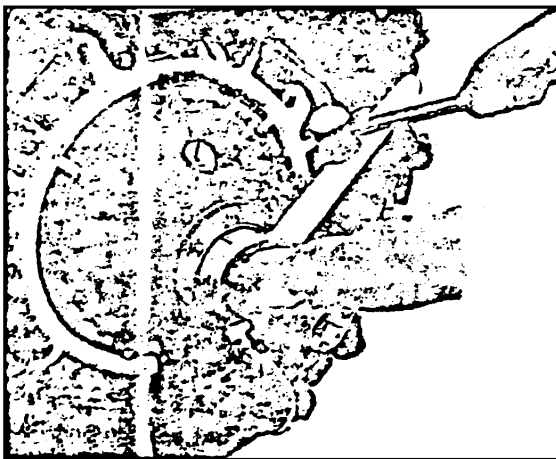

FIGURE 64—Tightening Propeller Shaft Thrust Nut
**THRUST NUT** Insert fiber drift through the piston pin bushing of the master rod and tighten the thrust nut with the wrench designed for this purpose and a lead hammer. Refer to figure 64.) Care must be taken that the parts have been installed prop-